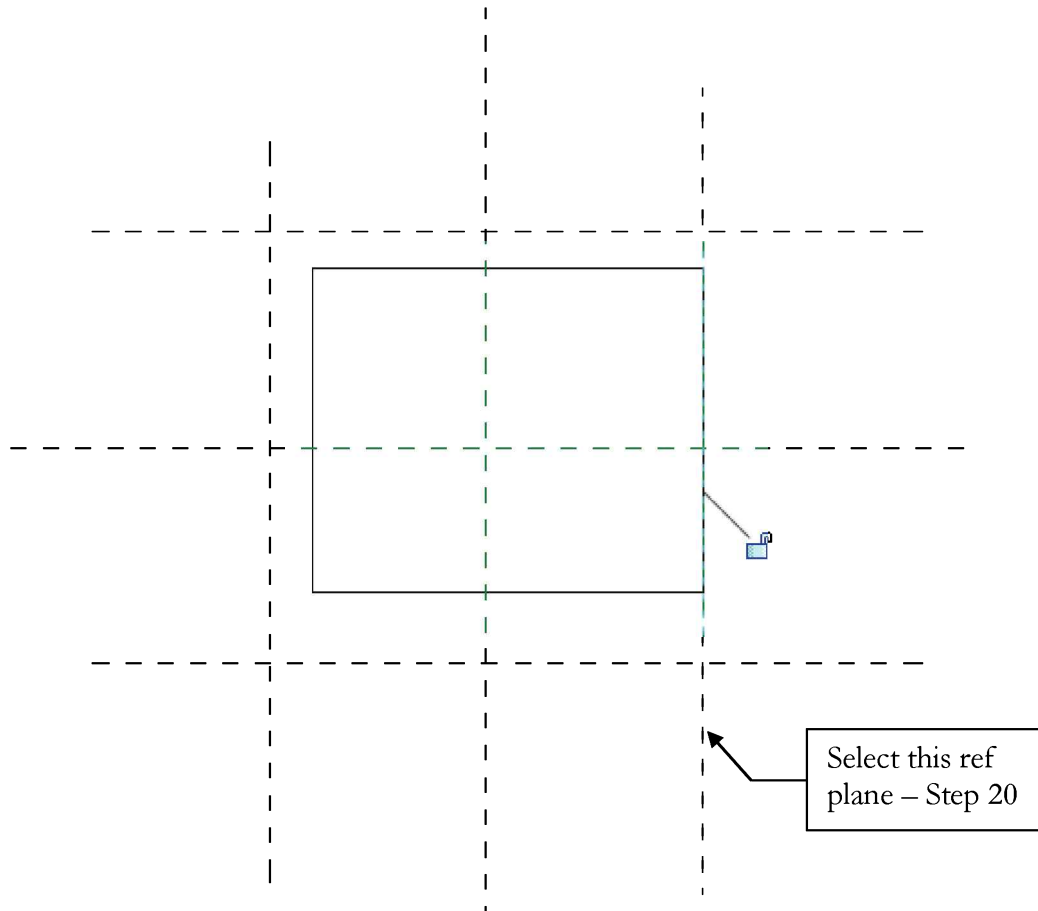

FIGURE 18-2.12 Aligning 3D geometry to reference planes
20. Select the vertical *Reference Plane* on the right (Figure 18-2.12).
The right side of the box should now be aligned with the *Reference Plane* (Figure 18-2.12). If the *Reference Plane* moved rather than the edge of the box, click **Undo**. When using the *Align* tool, the element that does not move is selected first.
- Figure 18-2.12 shows the icon in its initial position, unlocked.